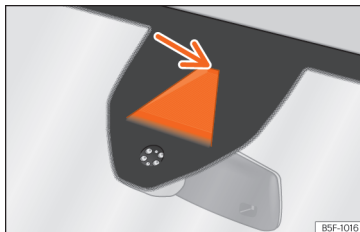

Fig. 270 On the windscreen: field of vision of the Lane Assist system camera.
- Before starting a journey, verify that the field of vision of the camera is not covered »» Fig. 270.